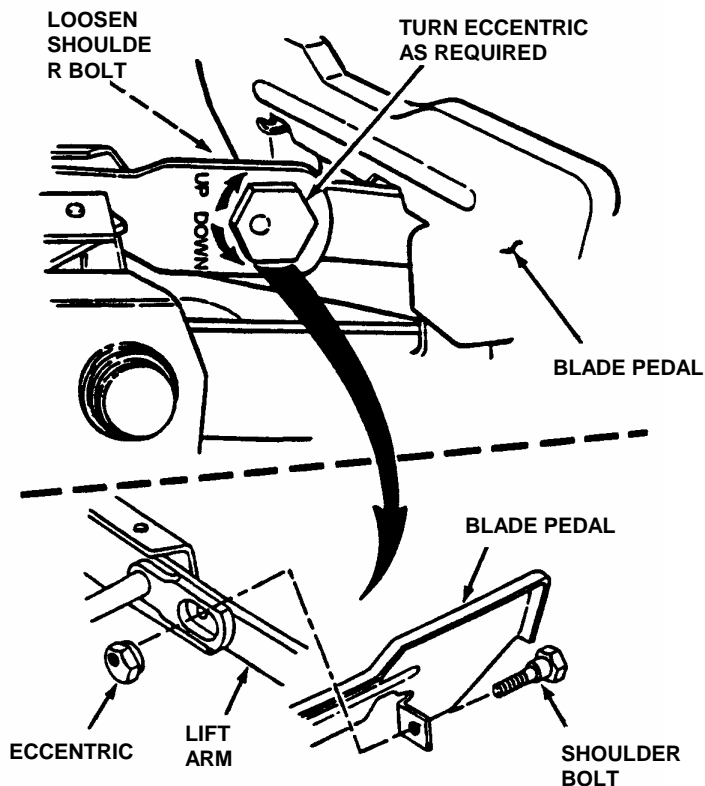

FIGURE 4.3
7. Turn eccentric "UP" or "DOWN" as required until blade tips are within $1/8$ " of each other. See Figure 4.3.